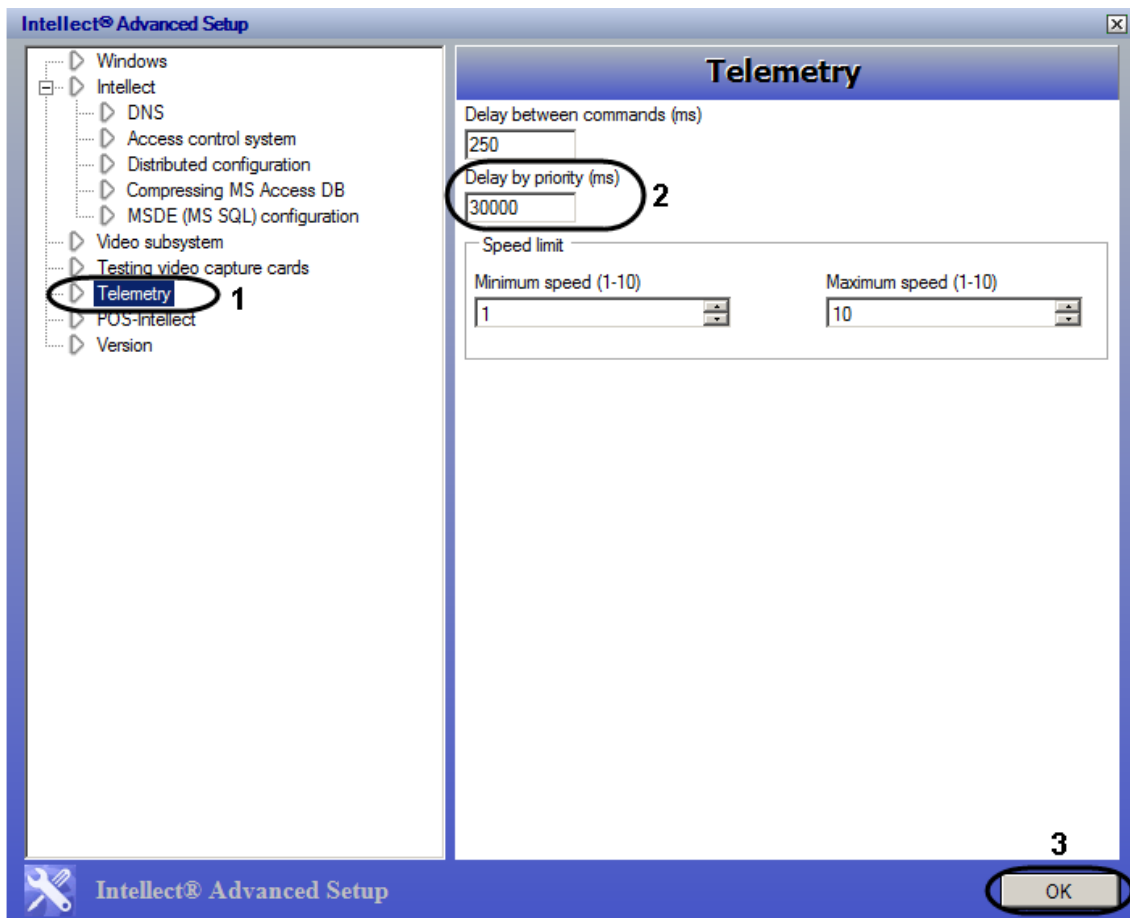

Figure 3.4-3 The Telemetry section of the tweaki.exe utility
1. Run the tweaki.exe utility in the **Tools** folder of the INTELLECT™ software installation directory (Figure 3.4-3).
2. Select the **Telemetry** section (Figure 3.4-3, 1).
3. Enter the value of PTZ control priority delay in the **Priority delay (ms)** field (Figure 3.4-3, 2).
4. Click **OK** to save the changes (Figure 3.4-3, 3).